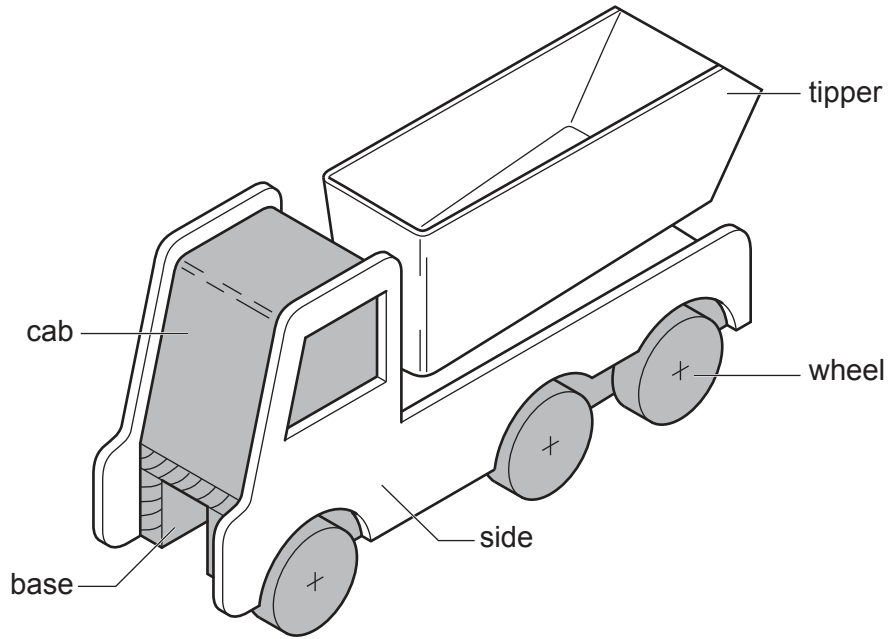

Fig. 13.1
- 13 Fig. 13.1 shows an incomplete design for a child's toy lorry that could be made in a school workshop. The sides are made from acrylic. The tipper is made from ABS. The base, cab and wheels are made from beech.